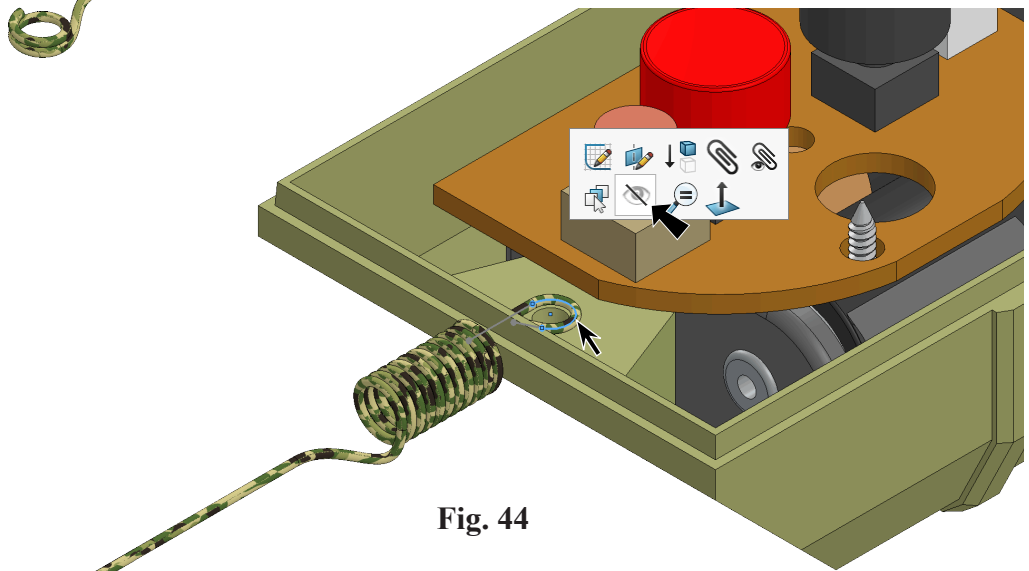

Fig. 44
Step 8. **Hide Sketch1** . To hide, click **Sketch1**  in graphics area and **Hide**  on the context toolbar, Fig. 44.